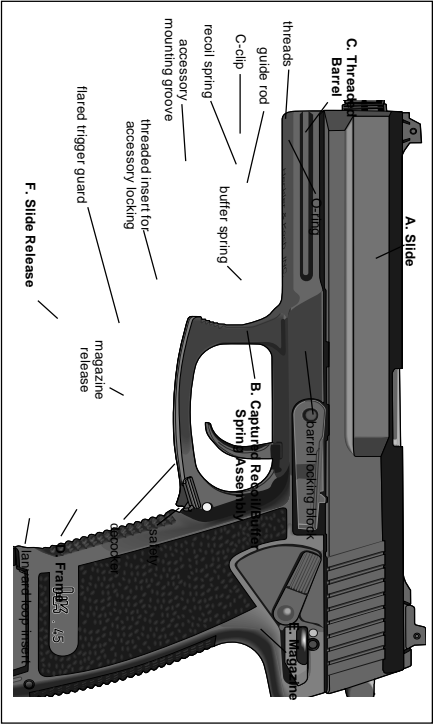

Figure 3 Major Assembly Groups
1.4 Major Assembly Groups (See Figure 3)